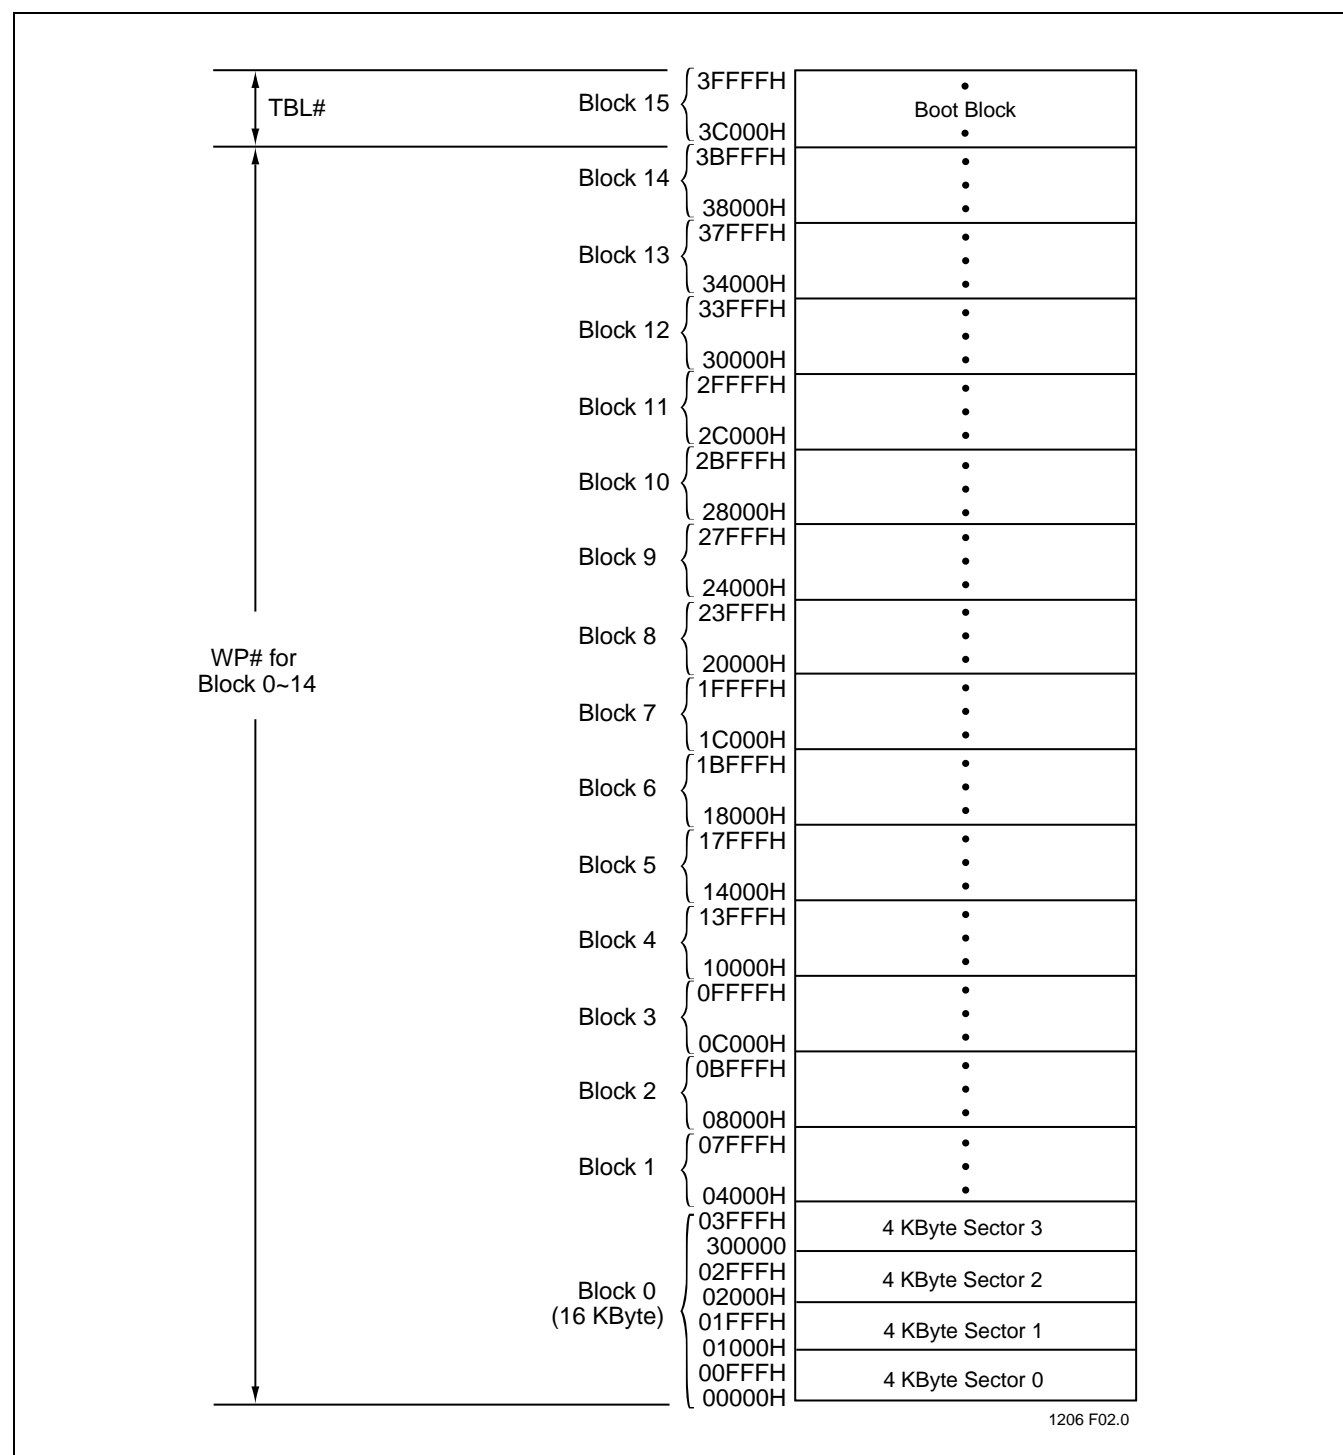

FIGURE 3: DEVICE MEMORY MAP
The SST49LF020A flash memory devices can operate in two distinct interface modes: the LPC mode and the Parallel Programming (PP) mode. The mode pin is used to set the interface mode selection. If the mode pin is set to logic High, the device is in PP mode. If the mode pin is set Low, the device is in the LPC mode. The mode selection pin must be configured prior to device operation. The mode pin is internally pulled down if the pin is left unconnected. In LPC mode, the device is configured to its host using standard LPC interface protocol. Communication between Host and the SST49LF020A occurs via the 4-bit I/O communication signals, LAD [3:0] and LFRAME#. In PP mode, the device is programmed via an 11-bit address and an 8-bit data I/O parallel signals. The address inputs are multiplexed in row and column selected by control signal R/C# pin. The row addresses are mapped to the lower internal addresses (A_{10-0}), and the column addresses are mapped to the higher internal addresses (A_{MS-11}). See Figure 3, the Device Memory Map, for address assignments.